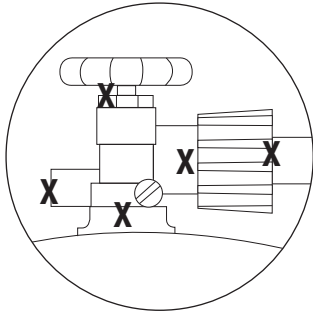

Figure 3
1. Make sure the control knob is in the "OFF" position (Figure 3).
2. Make sure control knobs are in the "OFF" position (Figure 3).
- Make sure the control knobs are in the “ OFF” position (Figure 3).